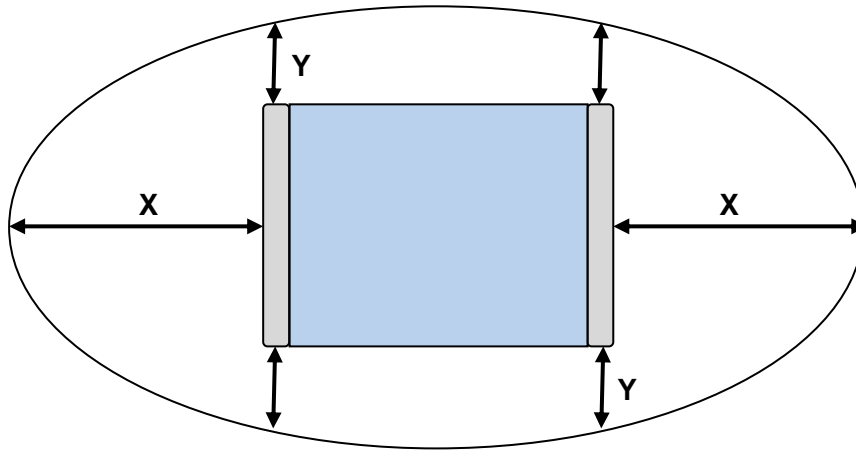

Fig. 11: Top view, capture area outside of the antenna gate
- **Fig. 11**). This means there are tag orientations in which the tag can be detected outside the reading area.